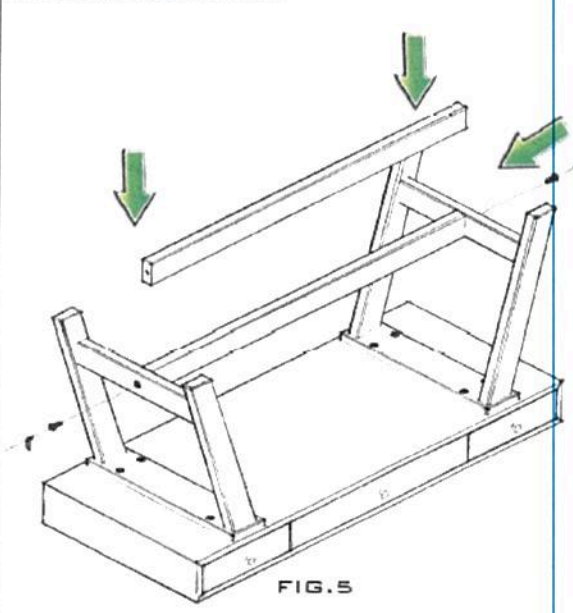

FIG. 5
- 4- TAKE THE DESK RAIL (C), ALIGN THE HOLES OF DESK BASE WITH THE HOLES OF DESK RAIL, AND TIGHTEN UNTIL SECURE, USING ONE ALLEN WRENCH (E). REPEAT THE SAME PROCESS ON BOTH BOLTS. **SEE FIG. 5**